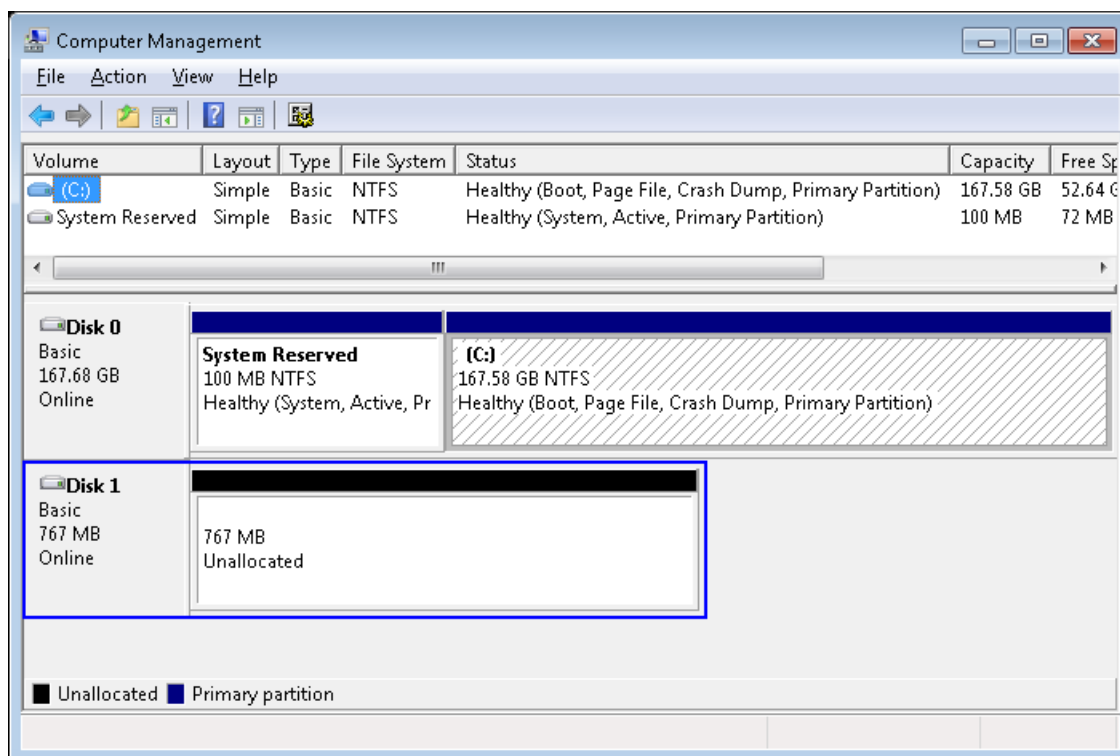

Figure 3-3 Initialize Disk Completed
- After that, new 768 MB disk which is unallocated will be displayed as shown in Figure 3-3.